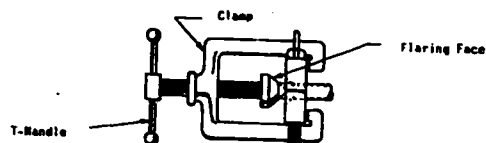

Figure 2. Flaring Yoke
5. Insert the flaring yoke over the flare block (see figure 2).